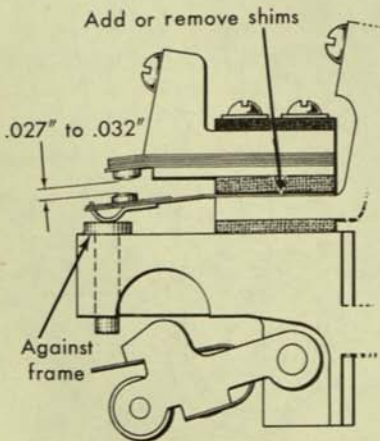

Figure 16. Plunger Circuit Breakers, Roller Cam Follower, Adjustment 2
2. The contact air gap should be $.027''$ to $.032''$ when the plunger is resting against the frame (Figure 16). Add or remove shims to obtain this adjustment.